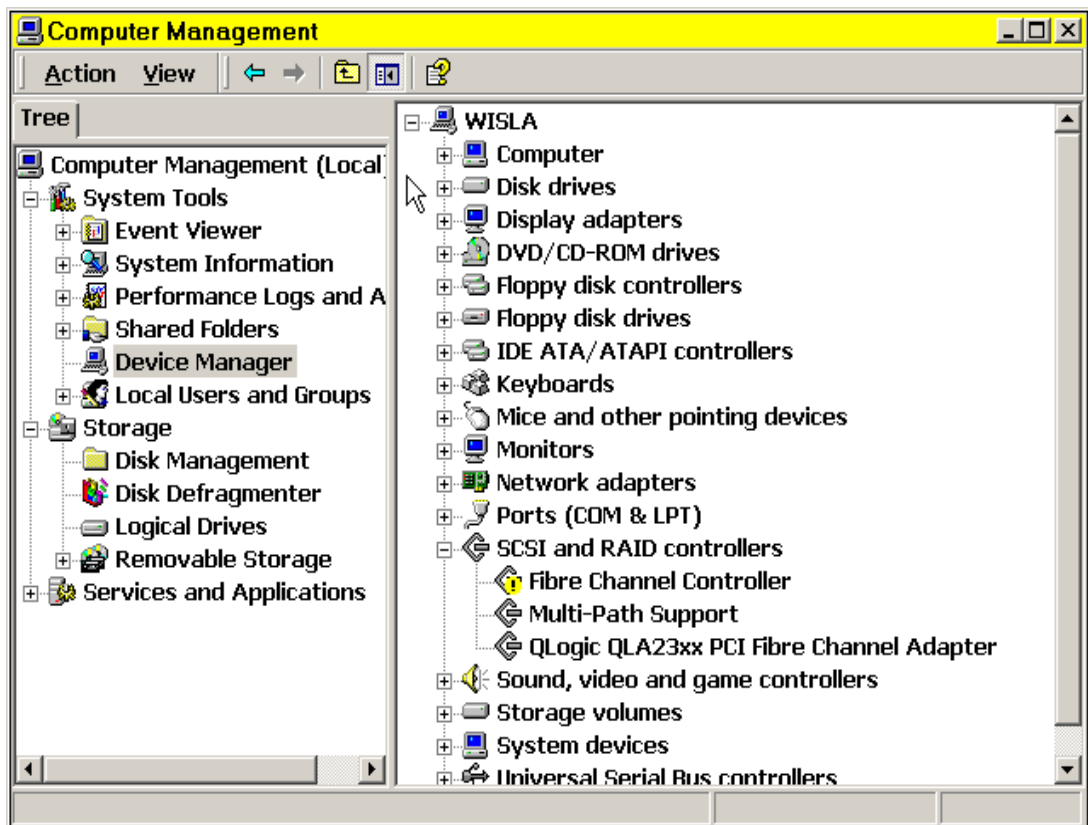

Figure 1 The Device Manager Tool
5. From the Desktop, go to My Computer → Manage → Device Manager, as shown in Figure 1.
Important: If any of your adapters are labeled QL2xxx, or similar as in Figure 1, perform these steps with that adapter as well. An adapter with that name is using the built-in Windows drivers, and the Windows drivers **do not** work.